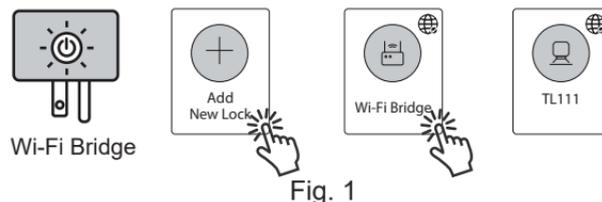

Fig. 1
Step 2. Tap **Add New Lock** and choose **Wi-Fi Bridge** from the list. Enter your Wi-Fi ID and Password to finish the set up (Fig.1).
Step 3. After the Wi-Fi Bridge set up successfully, the power indicator will stay on purple color (Fig. 1).